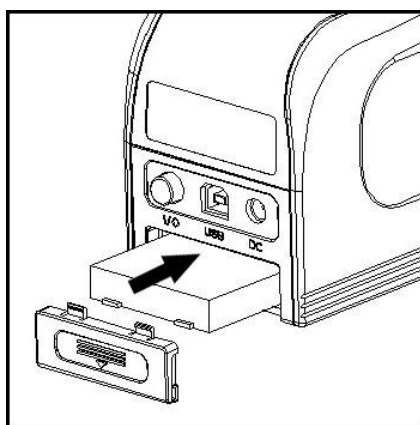

Figure 6. Mounting the battery
2. Mount the battery into the compartment as shown in Figure 6, pay attention to the front and back of the battery.